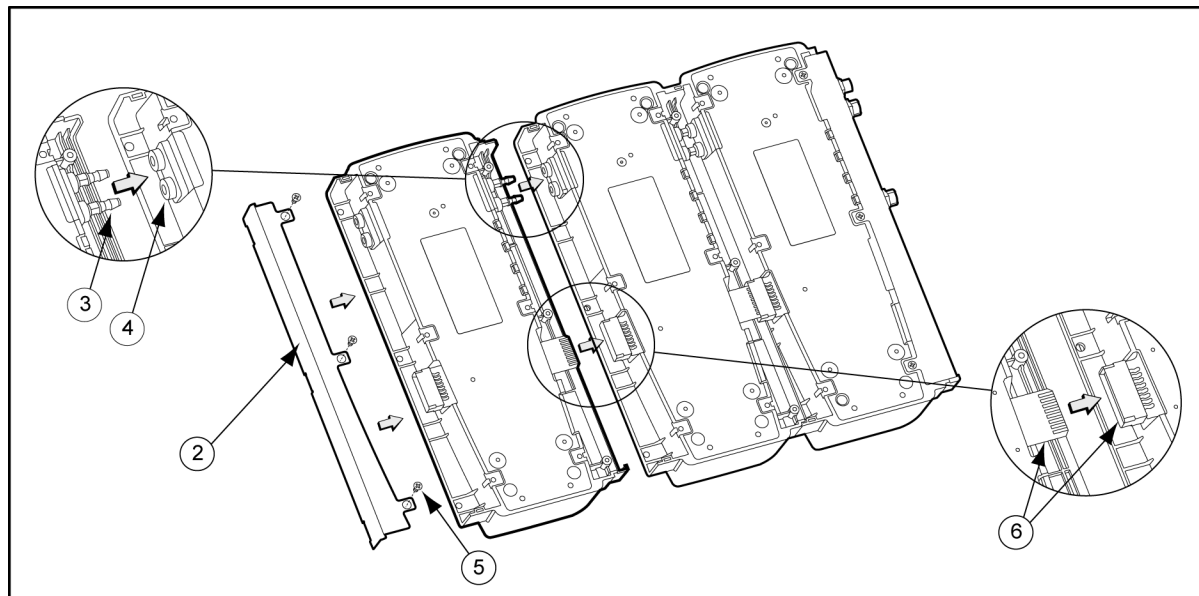

Figure 16. Adding Another Docking Module (Back View)
- Figure 16., and
To change the dipswitch setting on a GasAlertClip Extreme docking module refer to Tables 15 and 16, Figures 16 and 17, and complete the following: